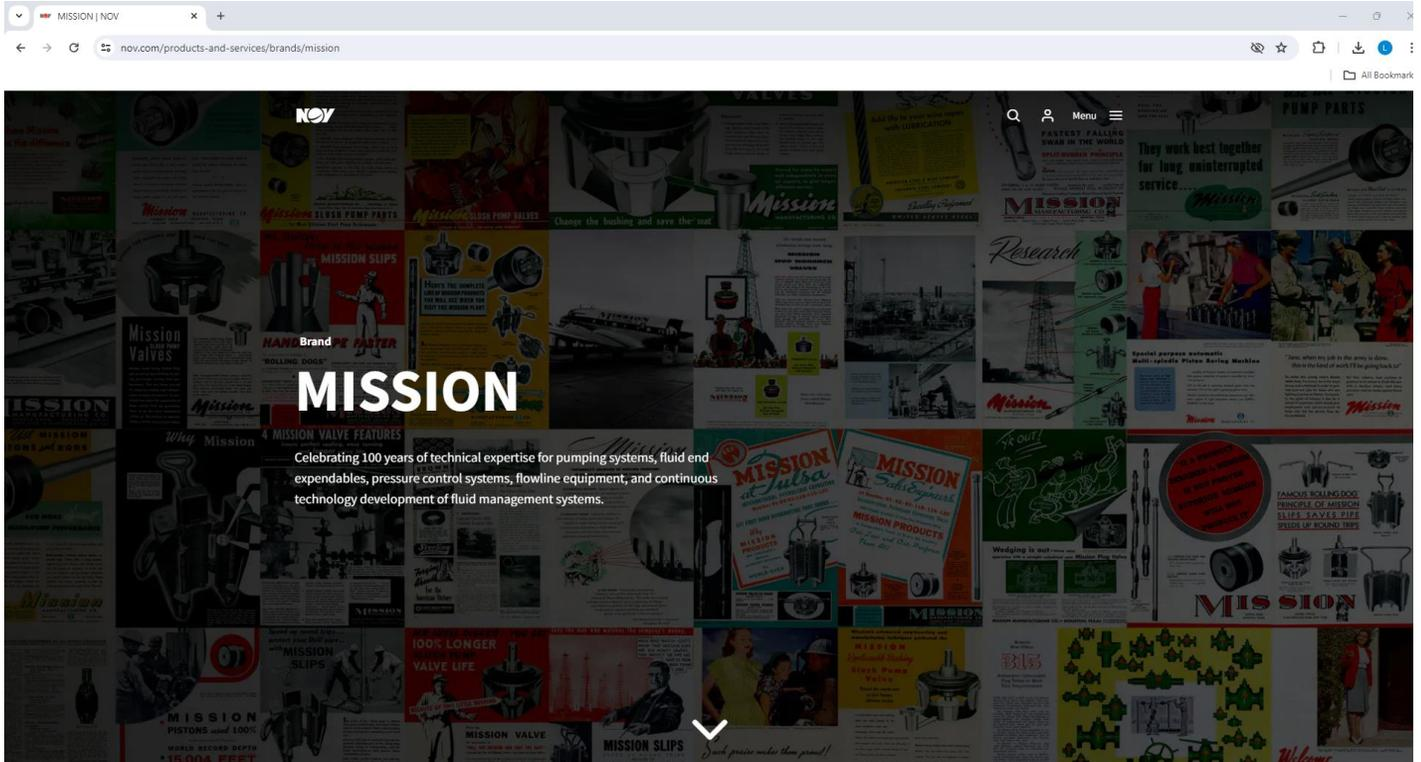

Figure 1b: website <https://www.nov.com/products-and-services/brands/mission>
- From the website <https://www.nov.com/products-and-services/brands/mission>, user can navigate to new website. First, navigate to following website as shown in figure 1b,